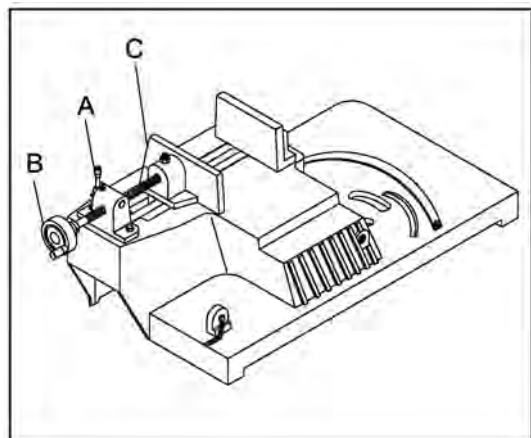

Fig. 2
1. Lift up the handle (A) in Fig. 2 then you can move the vise forward and backward with ease by holding the wheel (B) at the left end of base.
2. Push the visejaw (C) toward the work, make it as close as possible against the other visejaw which is fixed.
4. Turn the wheel (B) clock-wise to make sure the work is well located. During operation, you shall find it more convenient & more powerful to fulfill the clamp job than any of traditional ones could offer.